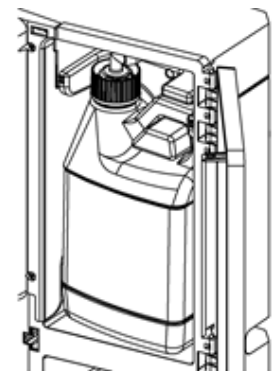

Figure 2
5. Position chemical container into each compartment in desired position and connect DUAL-LINK cap. (Figure 2)